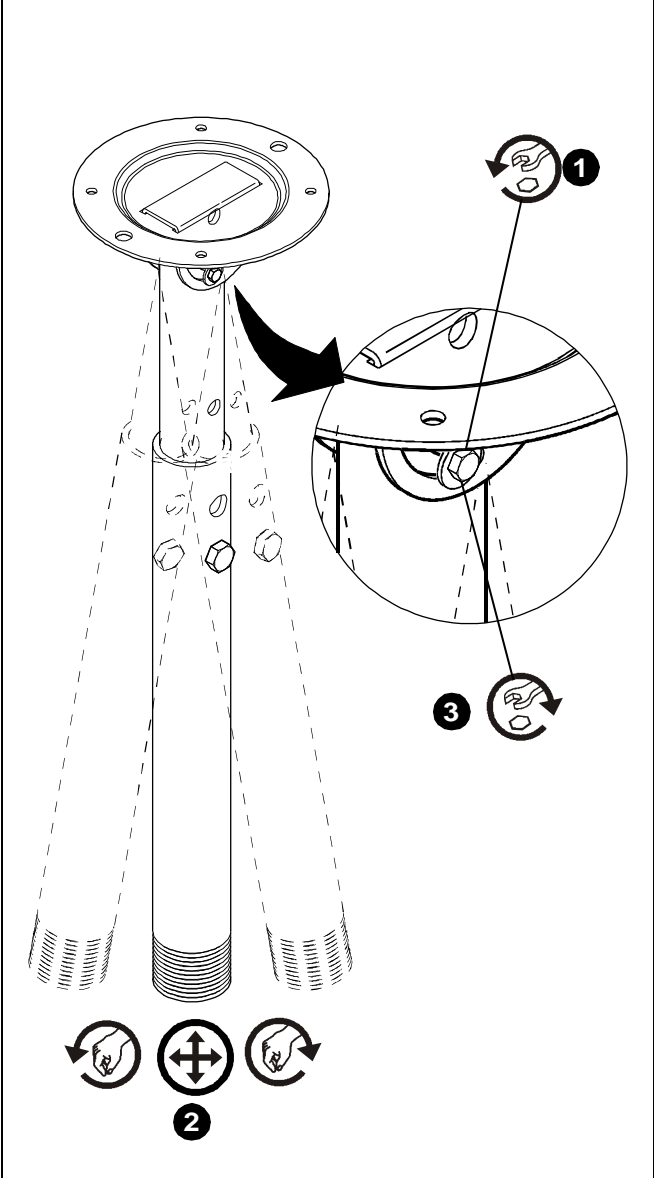

Figure 5
1. Loosen lower nut securing inner column to ceiling plate. (See Figure 5)
3. Tighten lower nut securing inner column to ceiling plate. (See Figure 5)